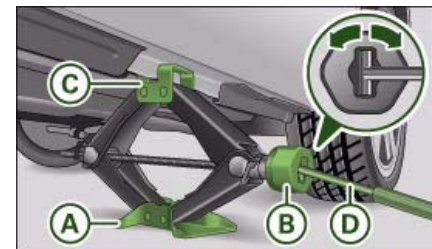

Fig. 232 Changing a wheel: Jack
- Place the jack underneath the **jacking point** closest to the wheel being changed. Make sure the base plate (A) is flat on the ground.
- Wind up the jack by the knob (B) until the claw of the jack (C) completely surrounds the **seam** on your vehicle ⇒ fig. 232. ▶
- Now fit the crank handle **D** onto the jack by inserting it in the opening on the knob ⇒ *page 252*, fig. 232. Turn the crank handle clockwise or anti-clockwise to secure it in place.